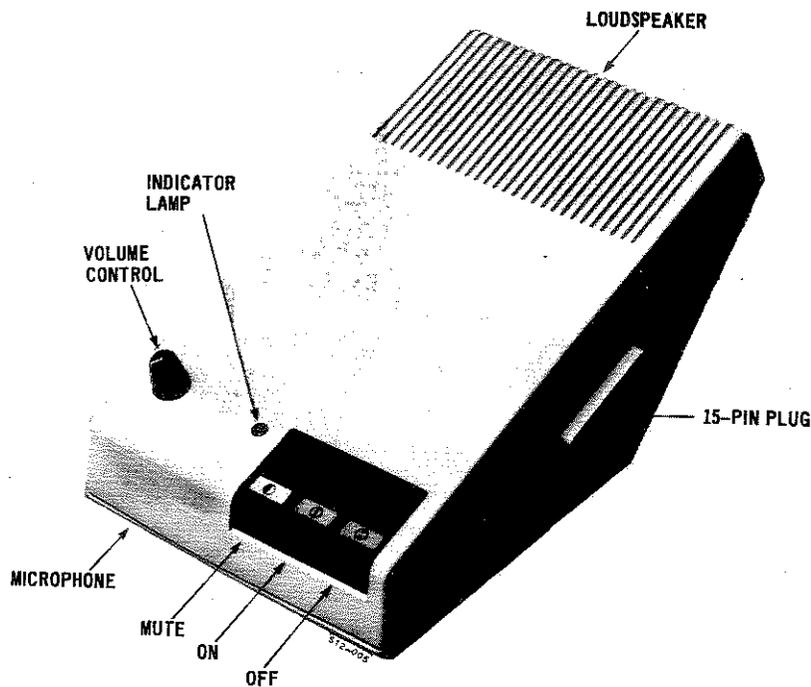

Fig. 3 - QUSIC - LOGIC - HFU
2.02 The LOGIC hands-free unit is supplied in a single configuration, QUS1C (Fig. 3) and is a plug-connected unit for use with telephone sets of the LOGIC series.
2.15 *QUSIC, LOGIC HFU (Fig. 3)*. This unit, which is functionally identical to the QUSIB, COMPANION 2, is supplied with a 15 pin integral plug for plug-in attachment to any of the LOGIC series of telephone sets. The plug mates with a matching jack on the side of the associated LOGIC telephone set and permits connection to the power source and all lines of the telephone set.